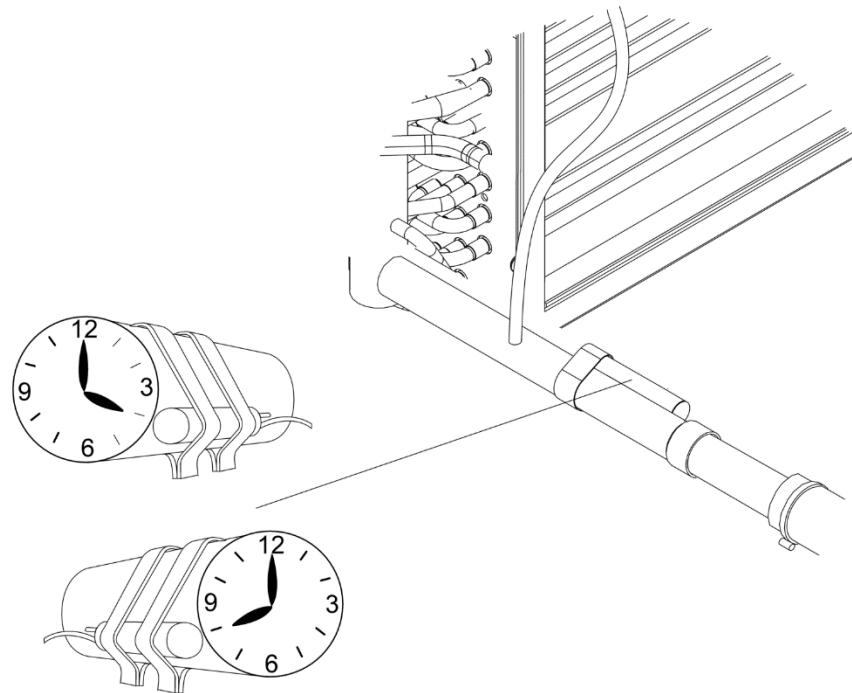

Figure 8-1: Thermocouple Positioning
2. Install a thermocouple on each suction line as close to existing Thermostatic Expansion Valve (TXV) bulb as possible. Install thermocoupler on suction line, at the 4 'o' clock or 8 'o' clock position. Refer to Figure 8-1.